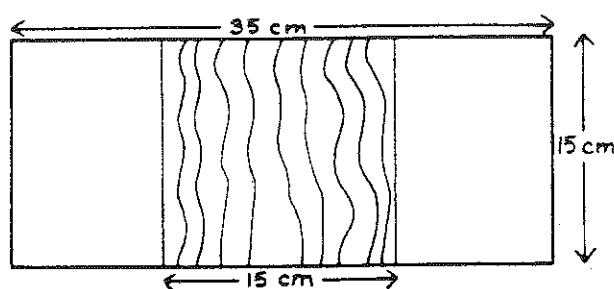

Figure 1
1. Build the bridge on a piece of cardboard 15 cm by 35 cm (figure 1).
2. Draw a river, 15 cm wide, in the middle of the cardboard (figure 1).